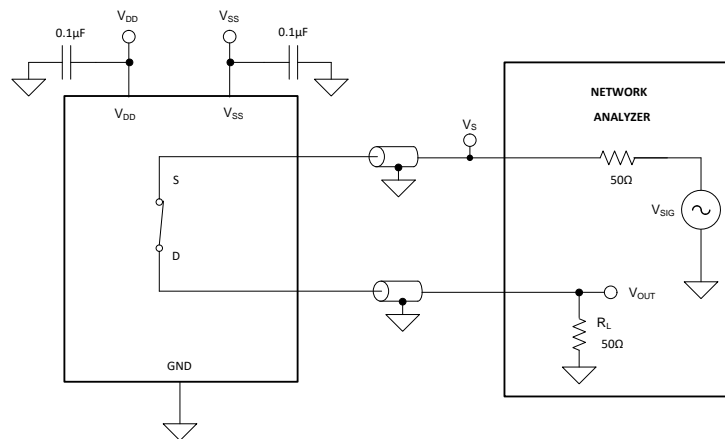

Figure 27. Bandwidth Measurement Setup
Bandwidth is defined as the range of frequencies that are attenuated by less than 3 dB when the input is applied to the source pin (S_x) of an on-channel, and the output is measured at the drain pin (D) of the device. Figure 27 shows the setup used to measure bandwidth.